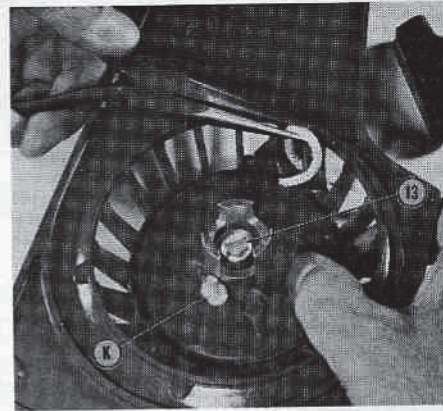

Fig. HL121—Pulling loop of starter rope past notch in rope pulley. Rope is retained by knot (K). Rope pulley retaining screw is (13).
Fig. HL120—Exploded view of typical ratchet type rewind starter used on all models. Refer also to Figs. HL121 and 122. Late type rope pulley (24) and separate spring lock (23) can be installed if necessary to renew early type pulley (10) with integral lock. On models XL-103E and XL-104E, a stationary screen is attached to outside of housing (5) and rotating screen (17) is not used.
REWIND STARTER. For exploded view of starter, refer to Fig. HL120. To disassemble starter, refer to Fig. HL121 and proceed as follows: If starter spring remains under tension, pull the starter rope out about two turns of pulley, hold pulley from turning and pull loop of rope out past notch in pulley. Allow the starter spring to completely unwind, then remove screw (13) and disassemble unit. Be careful when removing spring; a rapidly uncolling starter spring could cause serious injury.
If necessary to install new rope, insert end through pulley and tie knot as shown at (K—Fig. HL121). Heat end of rope to secure knot, then insert other end through rope guide in fan housing and secure in handle. Wind cord all the way onto pulley, then fit pulley and plastic sleeve onto starter post. Pull rope out far enough to be sure pulley engages spring, then allow spring to rewind. Install pulley retaining washer and screw and tighten screw to minimum torque of 50 inch-pounds. Pull cord out about two feet so that notch in pulley is at rope insert in housing and hold pulley from turning (Fig. HL121). Pull up a loop of rope between notch and fan housing, then holding loop, turn pulley and rope three turns clockwise (winding spring).